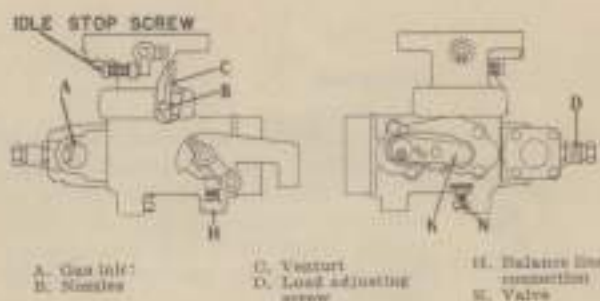

Fig. 61 — The correct low idle engine rpm is obtained by adjusting the idle stop screw shown for Ensign MG 1 carburetor.
**100. STARTING SCREW.** Immediately after the engine is started, bring the throttle to the fully open position and with the choke in the fully closed position, rotate the starting screw (N—Fig. 61) until the highest engine speed is obtained. A slightly richer adjustment (counter-clockwise until speed drops slightly) may be desirable for a particular fuel or operating condition. Average adjustment is  $\frac{1}{4}$ -turn open. Place the controls in operating position by completely opening the choke.
Move the throttle to the fully open position and load engine until speed is kept below any governor action (until throttle remains open); then, set the load screw (D—Fig. 61) to give a reading of 13.4 to 14.0, on a gasoline scale, or 14.0 to 14.7, on a LP-Gas scale. An average adjustment is approximately  $1\frac{1}{2}$ -turns open.